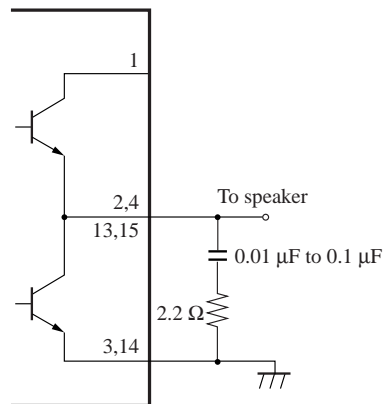

Figure 2
- 1) In order to increase the oscillation allowance, it is unnecessary to use a capacitor and a resistor between each output terminal and GND. However, when inserting the capacitor for counter-measures against output line noise between the output terminal and GND, insert a resistor of approx. 2.2 Ω in series as shown in figure 2. The oscillation may occur if only capacitor is used. Use it after giving a sufficient evaluation